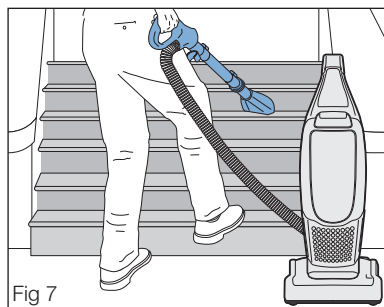

Fig 7
- Position vacuum cleaner on floor at bottom of stairs, pushed against bottom step (Fig. 7).